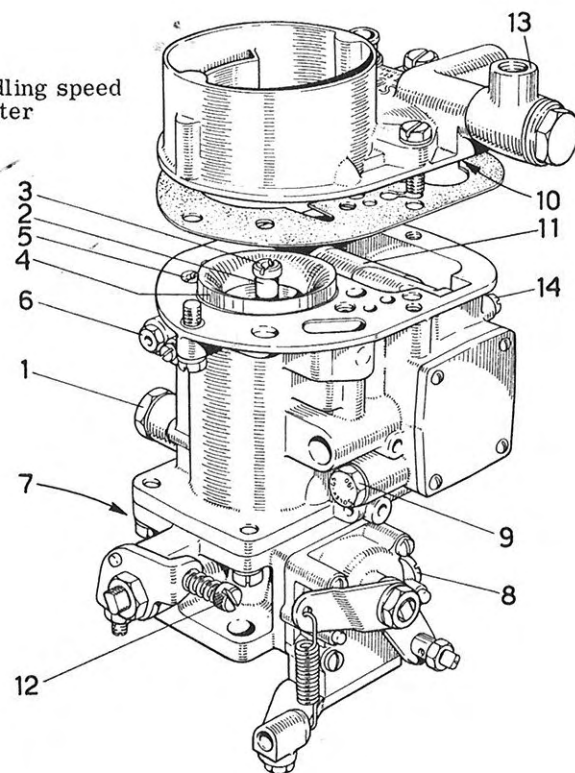

Fig. 3. 4. Carburetor, Solex 40 AI
The bistarter is used for starting a cold engine and gives a richer fuel mixture than the main carburetor. Its mixture ration is determined by the air jet 8 and fuel jet 9, Fig. 3. The bistarter is operated by means of a control, which gives the correct mixture when pulled out. The throttle must be completely closed when the cold-starting device is in use, otherwise the bistarter will operate incorrectly or not at all.
7. Remove main jet 1 (Fig. 3 and 4).